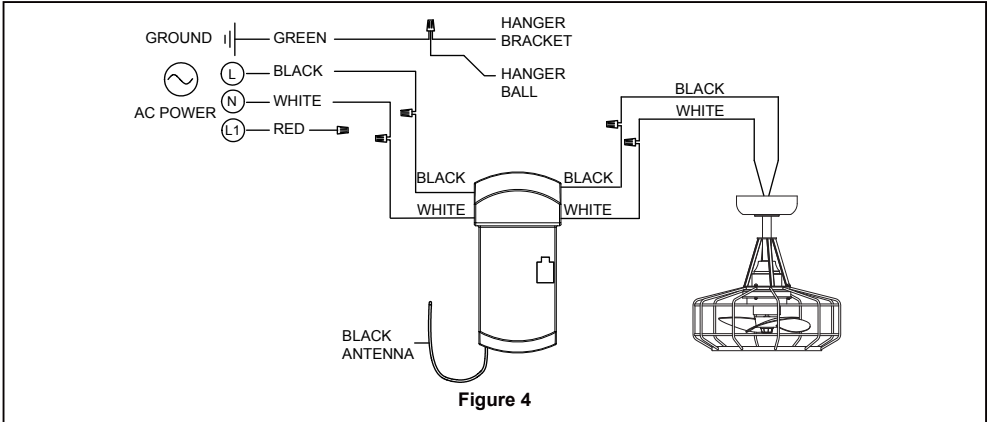

Figure 4
4. Thread downrod into the downrod support on top of the motor. Install the clevis pin by aligning the holes in the downrod support with holes in the downrod. Secure clevis pin with hairpin clip. Tighten the two set screws with nuts in the downrod support. (Figure 4)
2. Carefully lift the fan and seat the downrod/hanger ball assembly onto the hanger bracket that was just attached to the outlet box. Be sure the groove in the ball is lined up with tab on the hanger bracket. (Figure 4)
3. Connect green wires from hanger bracket, hanger ball and ground from supply using wire connector. Connect black wire from receiver unit marked "AC IN L" to black supply wire using wire connector. Connect white wire from receiver unit marked "AC IN N" to white supply wire using wire connector. Connect white wire from receiver unit marked "TO MOTOR N" to white wire from fan using wire connector supplied with receiver unit. Connect black wire from receiver unit marked "TO MOTOR L" to black wire from fan using wire connector supplied with receiver unit. (Figure 4)
- 4. To set the remote code same positions as the receiver with a small screwdriver or ball point pen (neither included), slide dip switches firmly up or down. (Figure 4)